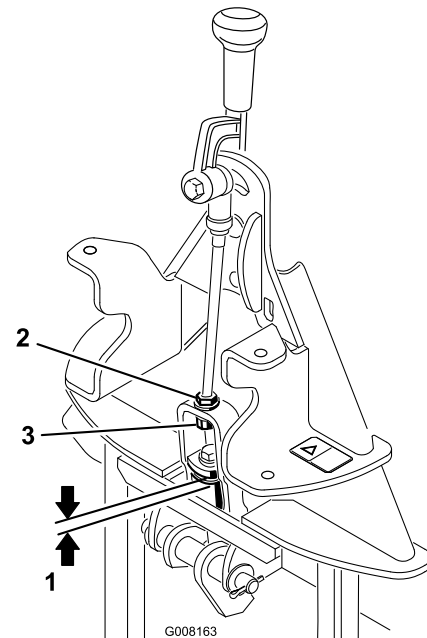

Figure 5
2. Measure the gap between the top washer and the spacer in the link assembly on the attachment adapter as shown in Figure 5.